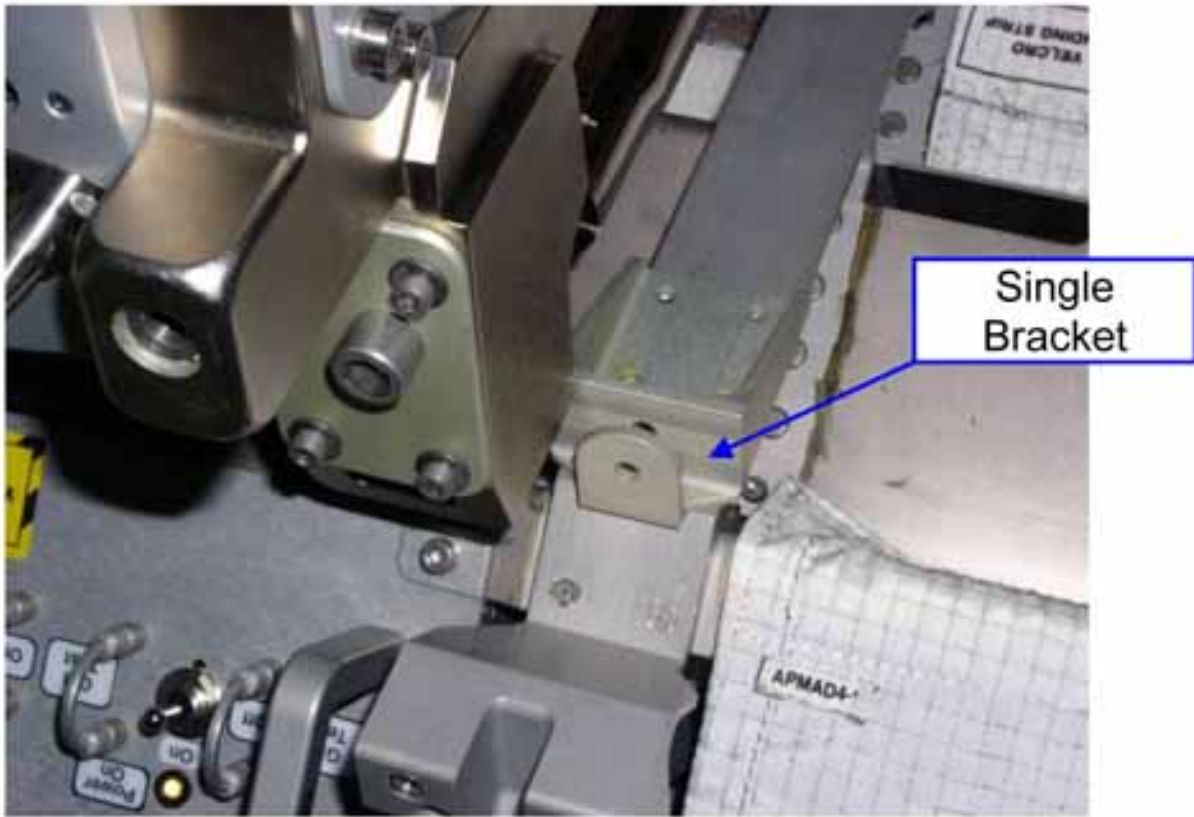

Figure 2. Single Bracket.
3. Partition Soft Covers are installed on double and single installation brackets. The single brackets installed between bays 1, 2 and 3, 4 are provided with 1 single pip-pin interface hole. Partition Soft Covers of these adjacent bays are installed on the brackets sharing the same pip-pin of one of the two covers. Refer to figures 2 and 3.
3. Partition Soft Covers are installed on double or single installation brackets. The single brackets installed between bays 1, 2 and 3, 4 are provided with 1 single pip-pin interface hole. Partition Soft Covers of these adjacent bays are installed on the brackets sharing the same pip-pin of one of the two covers. Refer to figures 2 and 3.